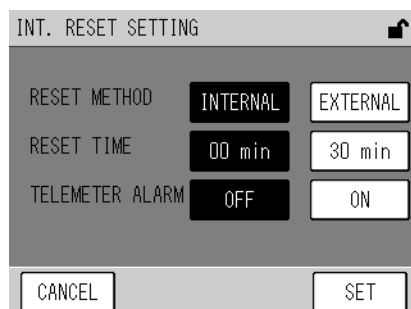

Fig. 70 INT. RESET SETTING screen
- [INT. RESET]: Displays the INT. RESET SETTING screen (Fig. 70 on page 57).